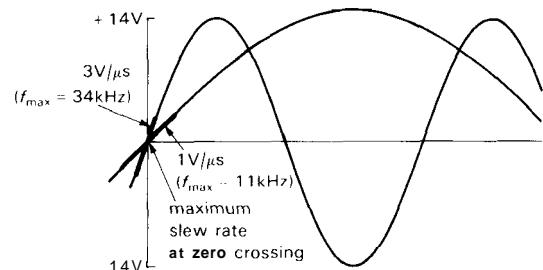

Figure 4.29. Slew-rate-induced distortion.
The op-amp "compensation" capacitance (discussed further in Section 4.32) and small internal drive currents act together to limit the rate at which the output can change, even when a large input unbalance occurs. This limiting speed is usually specified as **slew rate** or slewing rate (SR). For the 411 it is $15\text{V}/\mu\text{s}$; low-power op-amps typically have slew rates less than $1\text{V}/\mu\text{s}$, while a high-speed op-amp might slew at $100\text{V}/\mu\text{s}$, and the LH0063C "damn fast buffer" slews at $6000\text{V}/\mu\text{s}$. The slew rate limits the amplitude of an undistorted sine-wave output swing above some critical frequency (the frequency at which the full supply swing requires the maximum slew rate of the op-amp, Fig. 4.29), thus